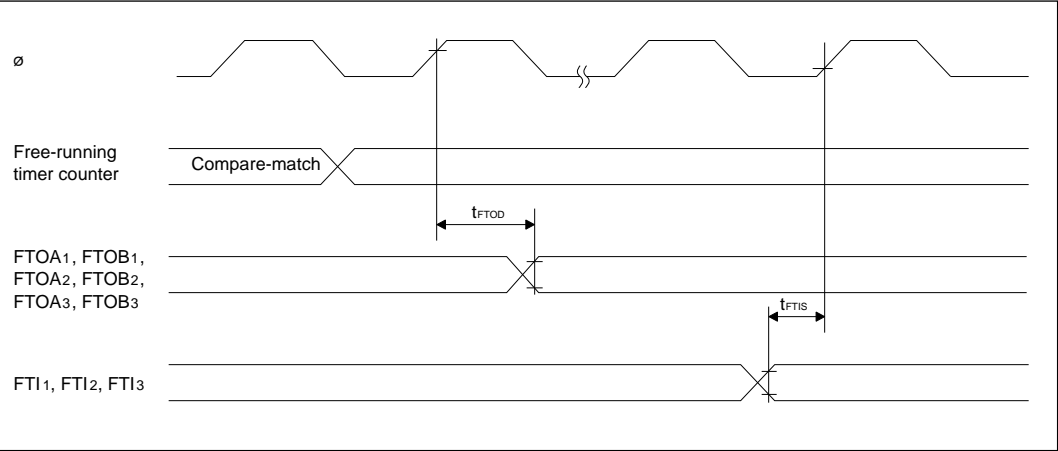

Figure 20-14 Free-Running Timer Input/Output Timing
20.3.5 16-Bit Free-Running Timer Timing	Figures 20-14 and 20-15